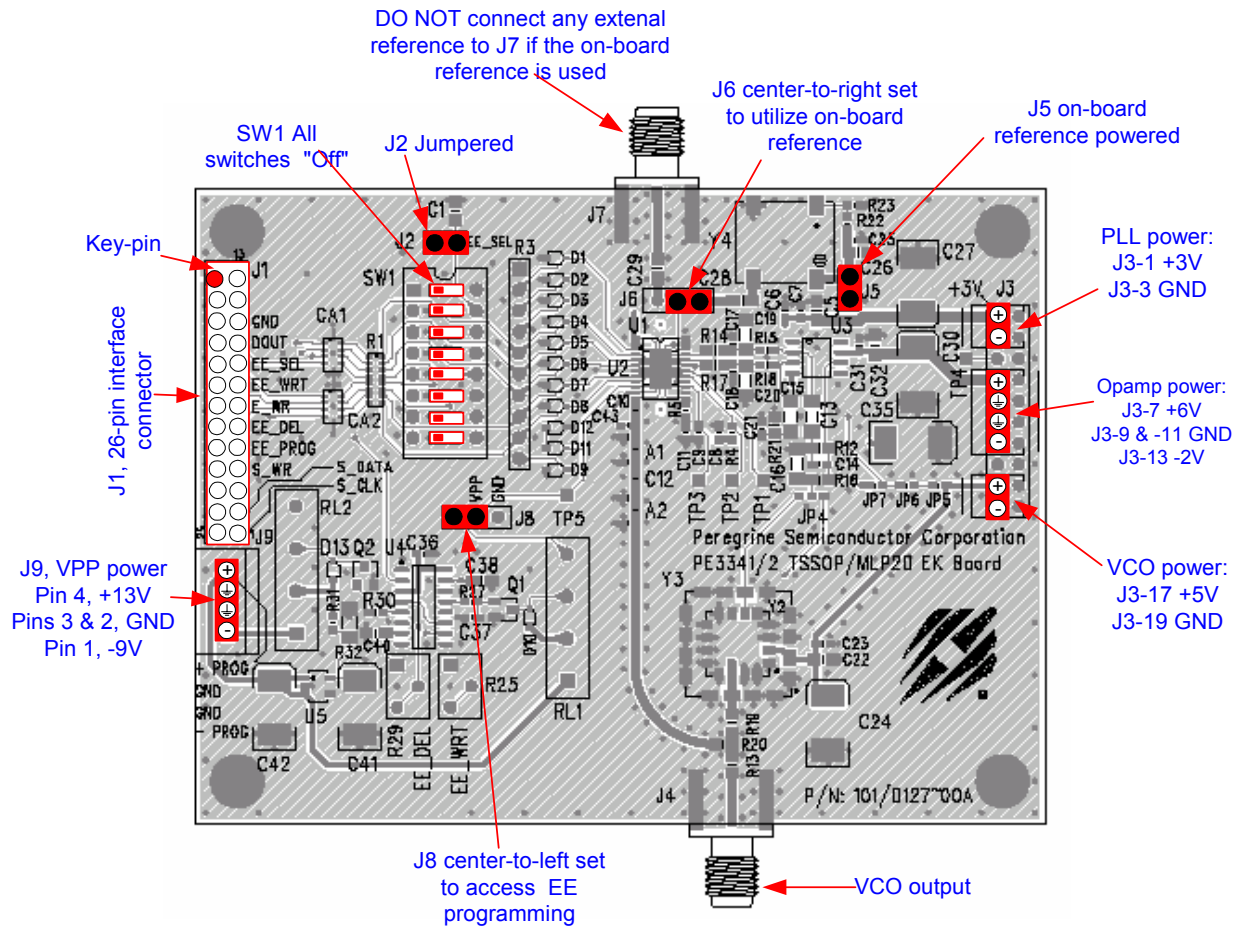

Figure 3. Jumper Setting for EEPROM Programming.
1. Place a jumper on the connector J2 as shown in Figure 3.
4. Connect power supply cables to the Evaluation Kit board as shown in Figure 3. Note that the red connector of the power cable is always the positive and the black connector is ground in a 2-wire cable or the negative in a 4-wire cable.